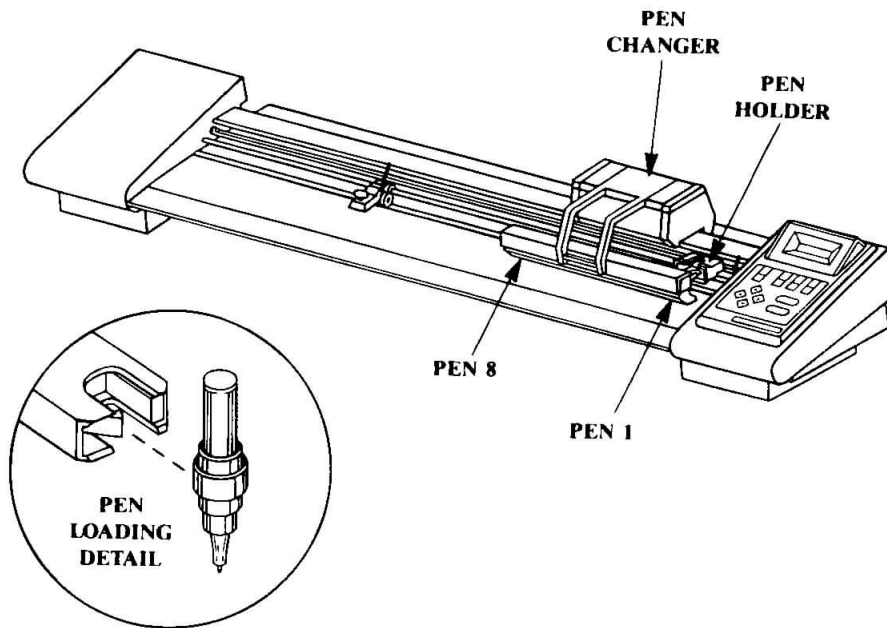

FIGURE 1-9. PEN INSTALLATION
- A pen is installed by pressing the wide part into the jaws of the pen changer pen stall. See Figure 1-9. Install pens installs 1 through 8 of the pen changer, and leave the plotter pen holder empty. You may find it easier to temporarily raise the pen changer arm to install the pens, then latch the pen changer arm in the lower position.